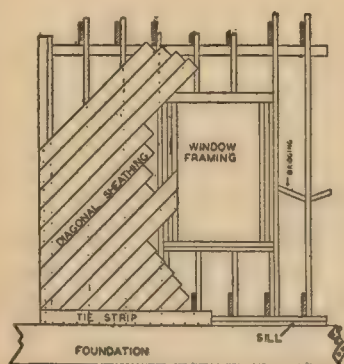

FIGURE 4
**DOUBLE STUDS:**—Studs shall be doubled at the sides, top and bottom of all window and door openings to supply the strength removed by the cutting of one or more studs. (*See Figure 4.*)